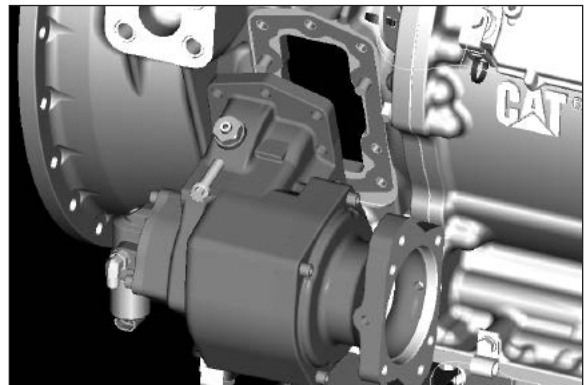

Figure 34
5. Position the PTO and secure it with the top cap screw provided (**Fig. 34**).